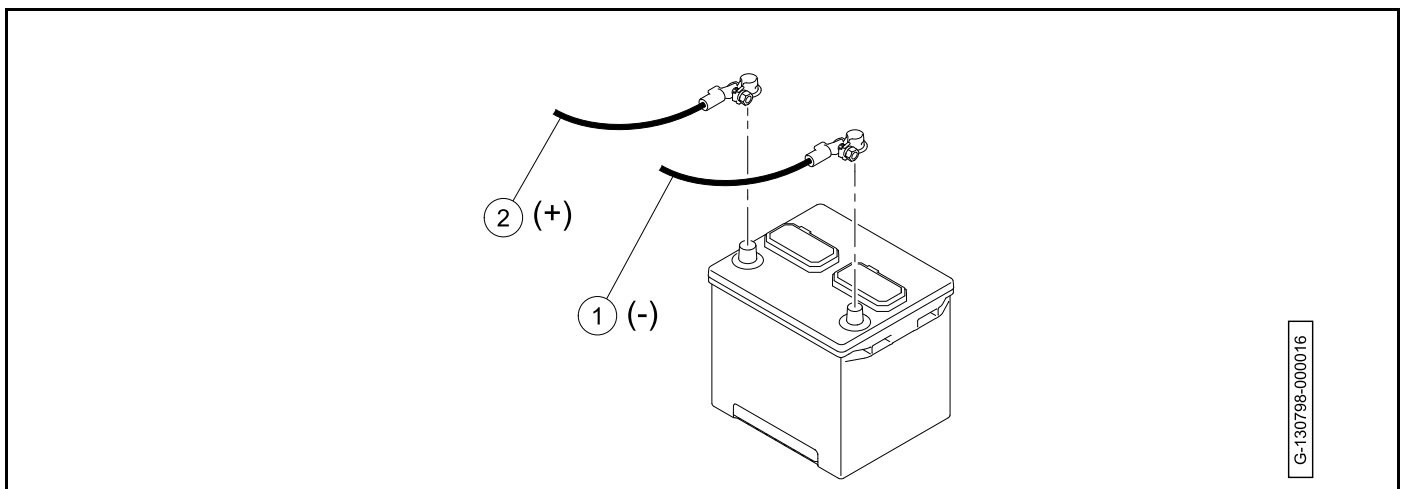

Figure 1-1 Gasoline Vehicle Battery
2. Disconnect the negative (-) cable (1) (Figure 1-1, Page 1-3).
1. Connect the positive (+) cable (2) (Figure 1-1, Page 1-3).
2. Connect the negative (-) cable (1).